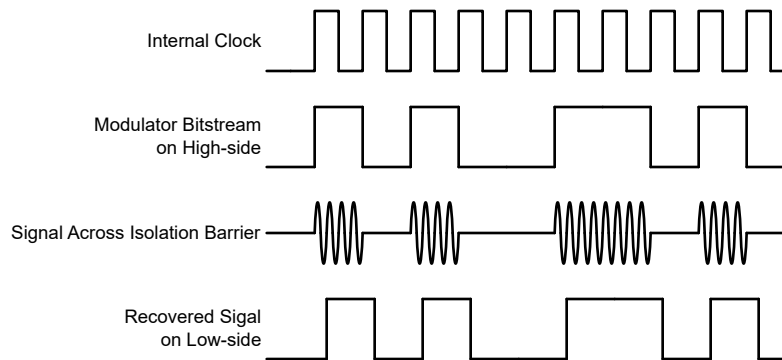

Figure 7-1. OOK-Based Modulation Scheme
The AMC3311-Q1 uses an on-off keying (OOK) modulation scheme, as shown in Figure 7-1, to transmit the modulator output bitstream across the SiO₂-based isolation barrier. The transmit driver (TX) depicted in the Functional Block Diagram transmits an internally-generated, 480-MHz carrier across the isolation barrier to represent a digital *one* and does not send a signal to represent a digital *zero*.